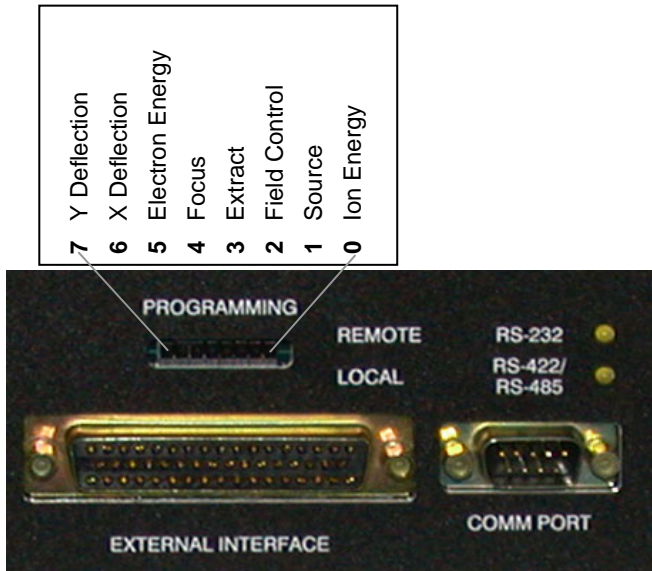

Fig. 4.5-3 Remote / Local switches on the back of the IGPS-2101
6. On the back of the main Power Supply, set the small remote/ local slide switches labeled **PROGRAMMING** to the **REMOTE** position (up) for each supply that is to be remotely controlled. Individual supplies can be run in either local or remote mode. (Fig. 4.5-3)